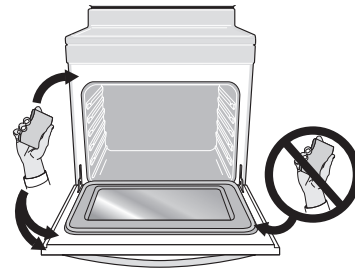

Figure 23: Clean around the oven door gasket
- Do not clean the oven door gasket (Figure 23). The woven material of the oven door gasket is essential for a good seal. Care should be taken not to rub, damage, or remove the gasket.
- Clean any soil from the oven frame, the door liner outside the oven door gasket, and the small area at the front center of the oven bottom. These areas heat sufficiently to burn soil on. Clean with soap and water. These areas are shown in white (Figure 23).